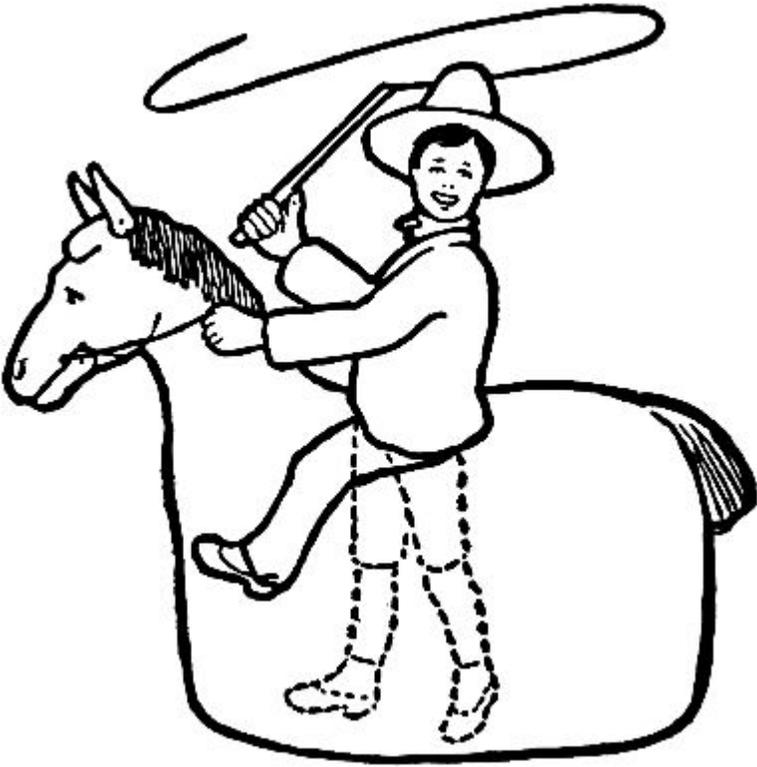

FIG. 278.—The Wild Man and the Wild Horse.
**Wild Horse**, owned by the Wild Man of Borneo. This breed of horse is shown in Fig. 278. A framework is necessary for the body, and this is best made as shown in Fig. 279. Cut two four-foot strips for the side-pieces, fasten them two feet apart, with a barrel-hoop at either end and arch barrel-hoops over the back, as shown in the drawing. The head (Fig. 280) is made in the same manner as that of the giraffe, the jaws and the ears (Figs. 281 and 282) being cut out separately and pivoted in place similarly to those of the giraffe. Paint the face, marking the eyes and nostrils, and make a mane and tail of unravelled rope. Having finished the head, mount it upon a short stick and fasten this to a crosspiece set in the framework, as shown in Fig. 279, bracing it with an upright fastened to another crosspiece. In fastening the various pieces of the framework together, it is well not only to use long enough nails to clinch, but also to bind each joint with wire or cord to make it stiff.
**The Wild Man** should wear an old slouch hat and a hunting jacket, and should have a pair of false legs fastened to him, so that while his own are inside the framework, as shown by the dotted lines in Fig. 278, they appear to be astride. To make the false legs, cut off the legs of an old pair of long trousers, stuff them with excelsior, and fasten a pair of shoes to the ends. These legs should be fastened to the hips of the rider. The framework should be held to the rider by means of ropes tied to the side strips, as shown in Fig. 279. These should be long enough to cross the boy's shoulders in the same way as a pair of suspenders.